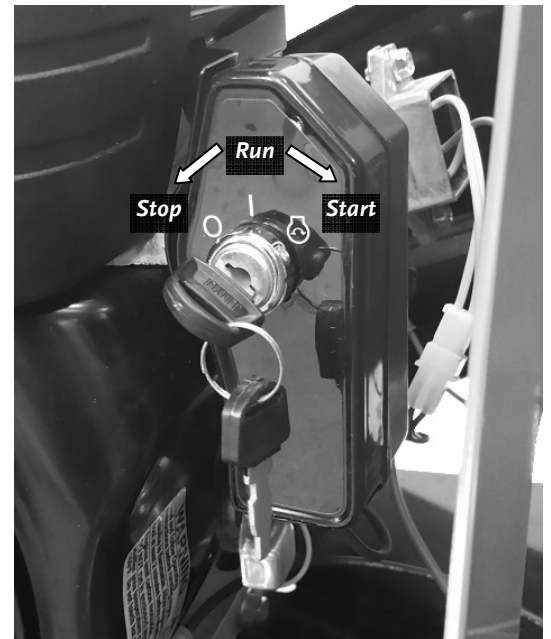

Figure 27
4. Slowly pull the Starter Cord until you feel resistance, then pull quickly. The Cord will recoil back into position (**Figure 27**).
4. Turn the Key to the “START” position until the engine starts and then release it (**Figure 27**). The Key Switch will snap back to the “RUN” position and the engine will continue to run.